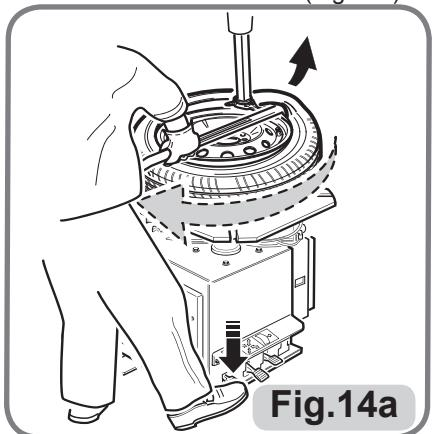

Fig.14a
Insert and position the bead lifting tool (18) on the mount/demount head (Fig.14). Lift the upper tire bead over the knob portion of the mount/demount head (Fig.14a)